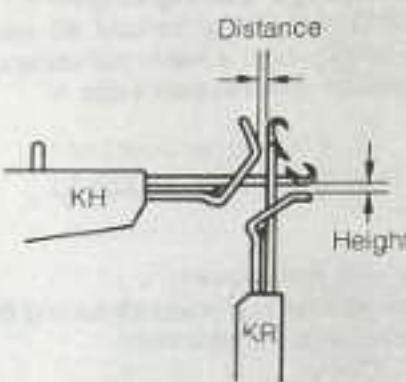
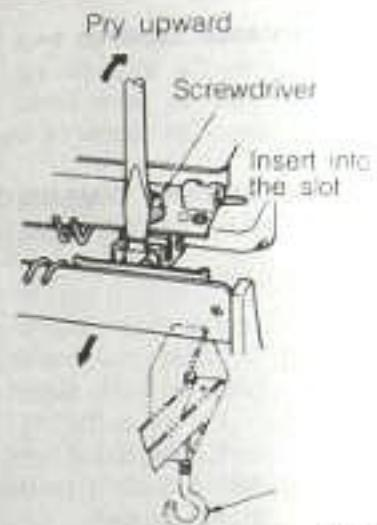

Fig.6
Fig.7
2.1 Standard dimension (See Fig.6)
- (1) Loosen a little the table clamps and the thumb screws of setting plates R and L.
- (2) Pull the ribber toward you.
- (3) Insert the slotted screwdriver into the slot of setting plates and pry upward to widen the slot for the adjustment like the Fig.7 and Fig.9.
- (4) After the adjustment, push the ribber to the knitter to attach correctly and fasten the thumb screws of setting plates, and table clamps.
- (5) Check the distance refereing Fig.6.
- (3) After the adjustment, fasten the thumb screws of setting plates and table clamps.
- (4) Check the distance refereing Fig.6.